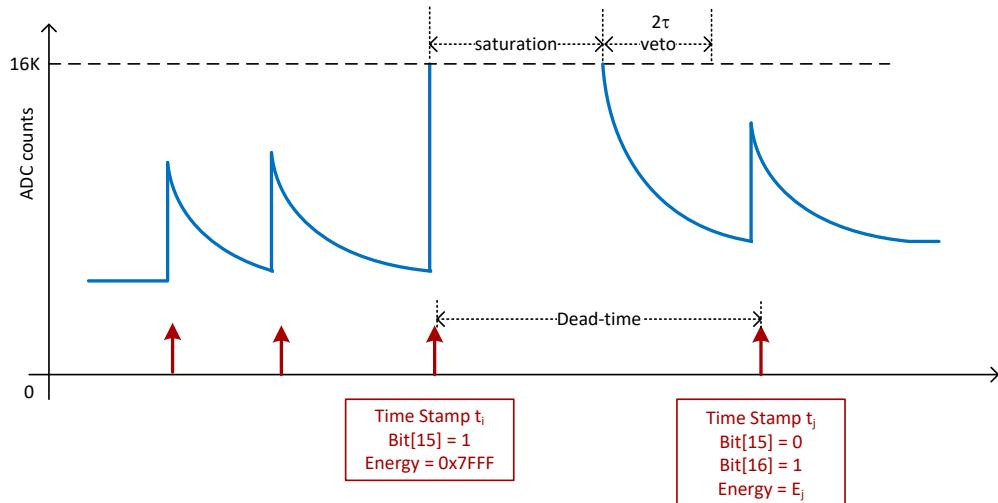
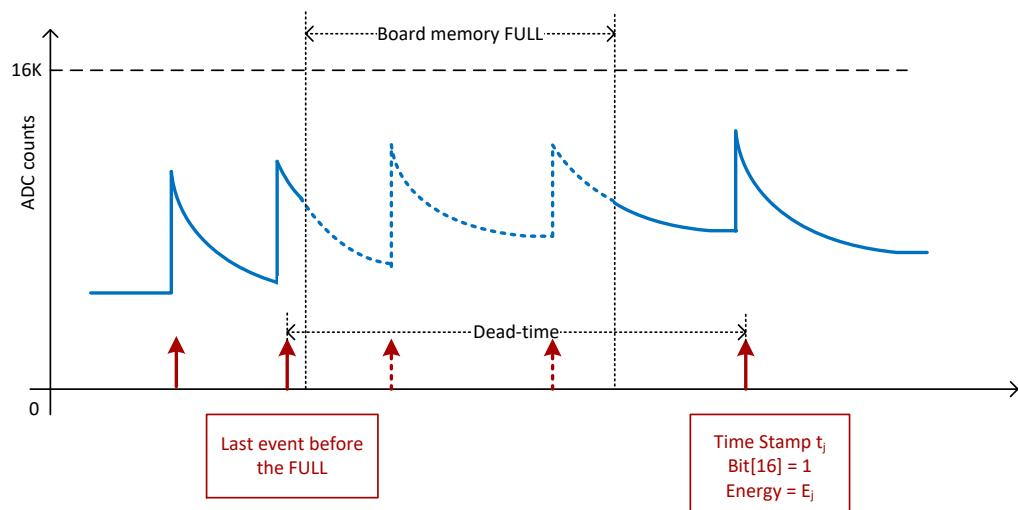

Fig. B.4: Dead-time in case of signal saturation.
Fig. B.5: Dead-time in case of FULL memory status. Events in the FULL are identified but not saved.
EXTRAS: bit[0] = DEAD_TIME. This is set to 1 when a dead time occurred before this event. The dead time can be due to either a signal saturation or a full memory status. Check **Fig. B.4** and **Fig. B.5** for more details
1. DEAD_TIME in case of signal saturation (see **Fig. B.4**). If the input signal is over-range (exceeds the input dynamic range of 16k ADC channels) then the acquisition is inhibited. As soon as the input signal is in saturation an event is saved with the corresponding time stamp, and bit[15] set to 1. The energy value is set to the maximum. This event has to be discarded for the energy spectrum, anyway it can be considered for the dead-time calculation. Once the signal is out of saturation a new trigger is inhibited for a time window of 2*Decay Time. The first event after the saturation is tagged with bit[16] = 1.
2. DEAD_TIME in case of FULL board memory (see **Fig. B.5**). When the memory of the board is full (which is usually due to a write event), the board is not able any more to transfer the event data. When the board is ready again, the first event after the FULL will have the bit[16] set to 1, and the energy value as read from the algorithm. The dead-time is equal to the time difference between the last trigger occurred and the trigger after the FULL status.